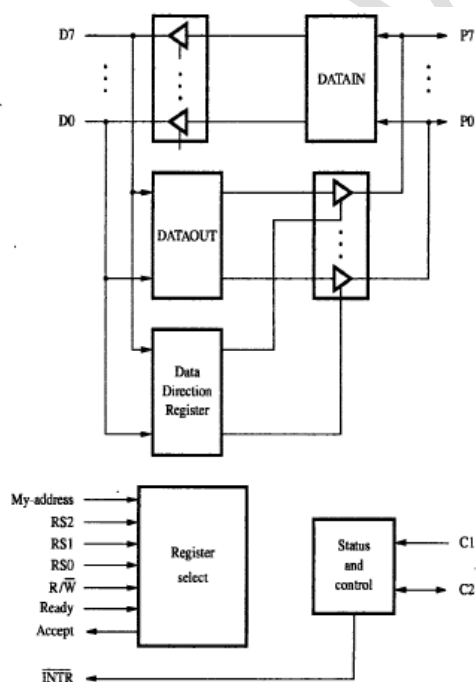

Figure 4.34: General 8 bit parallel interface
- Data-lines **P7** through **PO** can be used for either input or output purposes (Figure 4.34).